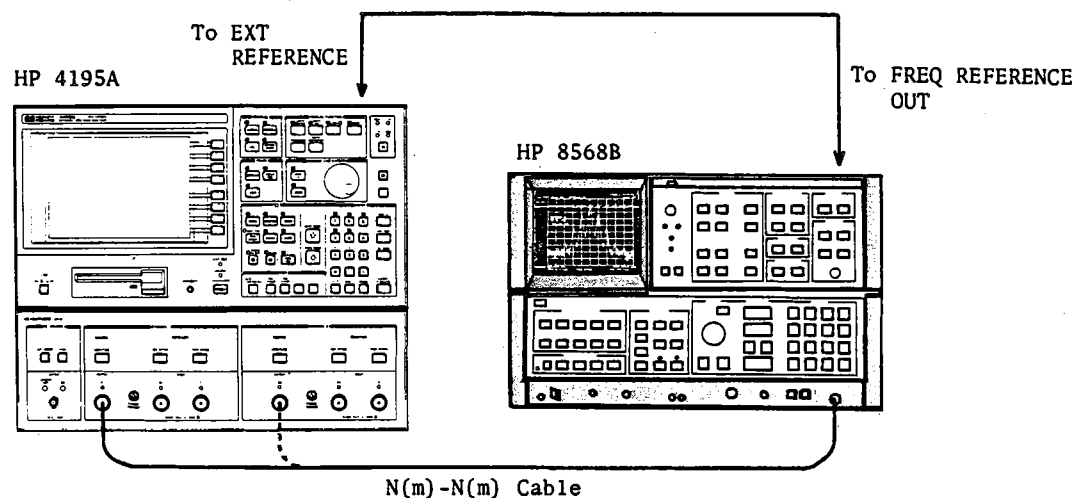

Figure 2-14. Non-Harmonic Spurious Test Setup
2. Connect an N(m)-N(m) Cable between HP 4195A **OUTPUT S1** and the Spectrum Analyzer **SIGNAL INPUT 2**, and connect the BNC(m)-BNC(m) cable between HP 4195A's **EXT REFERENCE** connector and spectrum analyzer's **FREQUENCY REFERENCE OUTPUT** connector as shown in Figure 2-14.